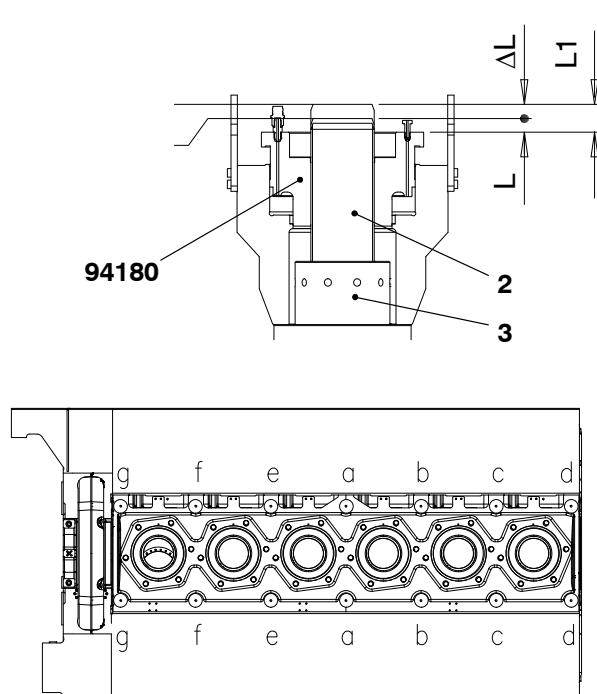

Fig. 3
- 1) Put the two pre-tensioning jacks (94180, Fig.3) on the to two tie rods (2).
- 3) Record the length of the tie rods (2) at L.
- 5) Record the length of the tie rods (2) at L1.